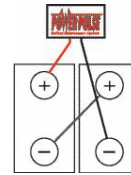
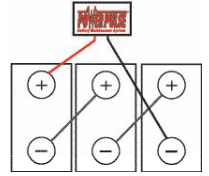

Fig. 2
Fig. 4
For two (2) 6-volt batteries connected in series to equal 12-volts, follow steps 1 through 2 above. On step 3 connect the positive wire to the positive terminal on Battery 1 and the negative wire to the negative terminal on Battery 2 (see Fig. 2).
minal on Battery 1 and the negative wire to the negative terminal on the last battery in the set {see Fig. 2 for an example of how a 24-Volt PowerPulse is installed on two (2) 12 volt batteries and Fig. 4 for a 36-volt PowerPulse on three (3) 12-volt batteries}.